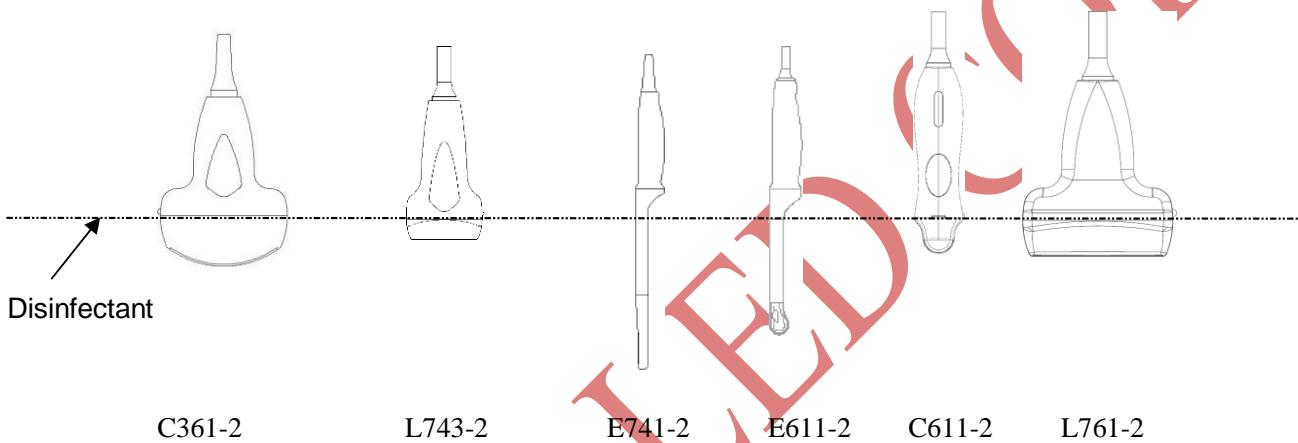

Figure 14-1 Depth of the Probe Immersed into Disinfectant
2. Place the cleaned and dried probe in contact with the disinfectant (refers to figure 14-1 for the contacting area) for the time specified by the disinfectant manufacturer.